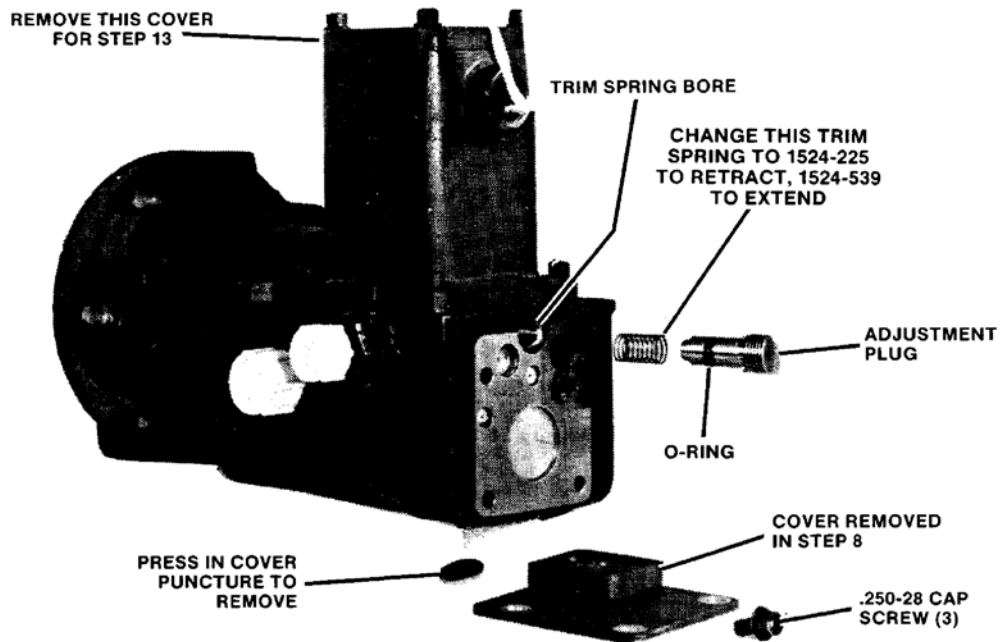

Figure 2. Actuator Body with Adjustment Plug and Trim Spring Removed
13. Install the TM actuator on the test facility. Remove the torque motor cover (see Figure 2) and reverse the connections at soldered terminals A and B. Use new shrink tubing at the terminals. Replace the cover and mark the actuator to indicate the change in type.